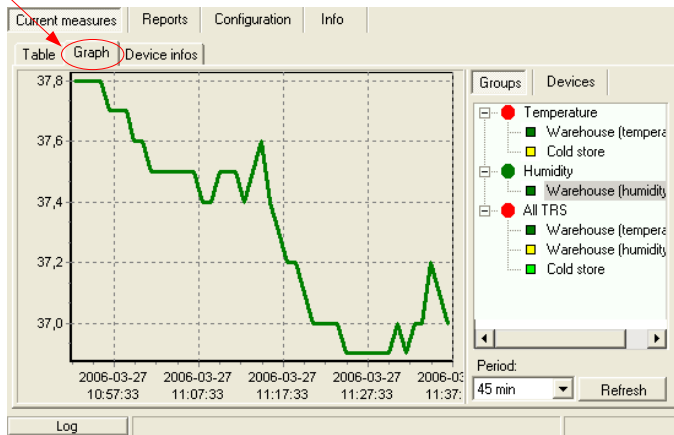

Figure 4.6. **Current measures - Graph tab**
Graph tab (Figure 4.6) is used for viewing the measurement results (temperature, humidity) in the form of a graph. Measurements from a maximum of 12 units (transducers, sensors) may be viewed simultaneously.
- **graphs area** - plots measured values (e.g. temperature, humidity) in function of time. Each sensor is distinguished by a different colour (Figure 4.6);